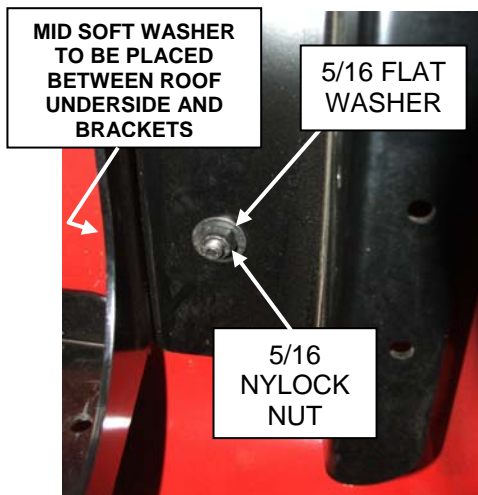

Figure 6
32. Secure roof to frame using (4) 5/16" x 1.50" long, (8) 5/16" flat washers, (4) 5/16" nylock nuts, (8) soft rubber mount washers and (4) hard cap mount washers. See Figures 6 and 7.